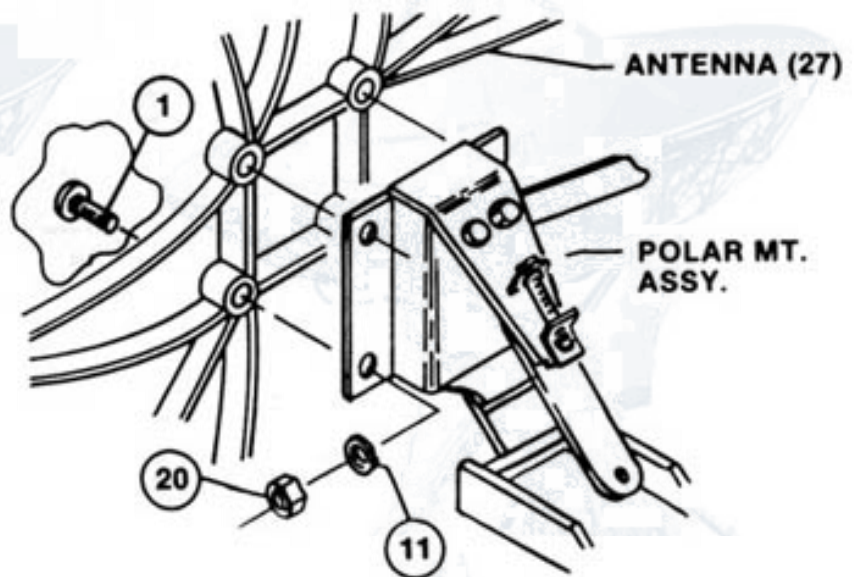

FIG. 2.4 - ASSEMBLING ANTENNE TO POLAR MOUNT ASSEMBLY
Install antenna onto polar mount and secure using four M8 x 60 round head, square neck bolts (1), lock washers (11) and hex nuts (20). (Ref. Fig. 2.4).